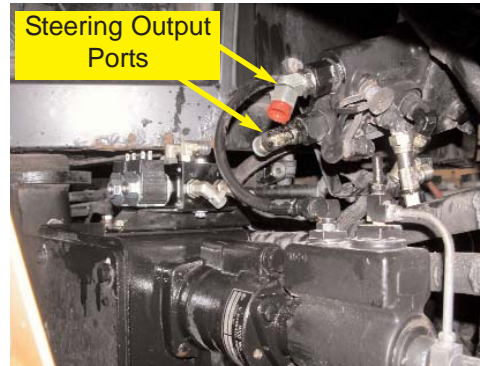

Figure 5b. Location of steering output ports on manual steering valve.
- b. Locate the two hoses on the right side of the manual steering valve. (Figure 5b.)